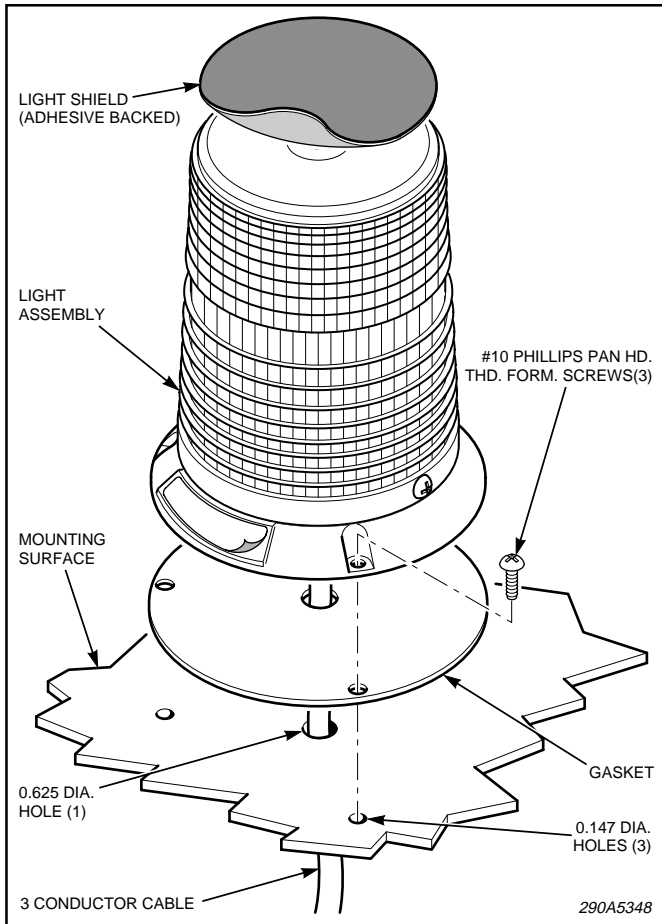

Figure 1.
3. Align the gasket over the four previously drilled holes. Route the 3-conductor cable through the gasket and wiring routing hole as shown in figure 1.
4. Secure the base to the mounting surface with the #10 pan head phillips thread-forming screws (see figure 1).